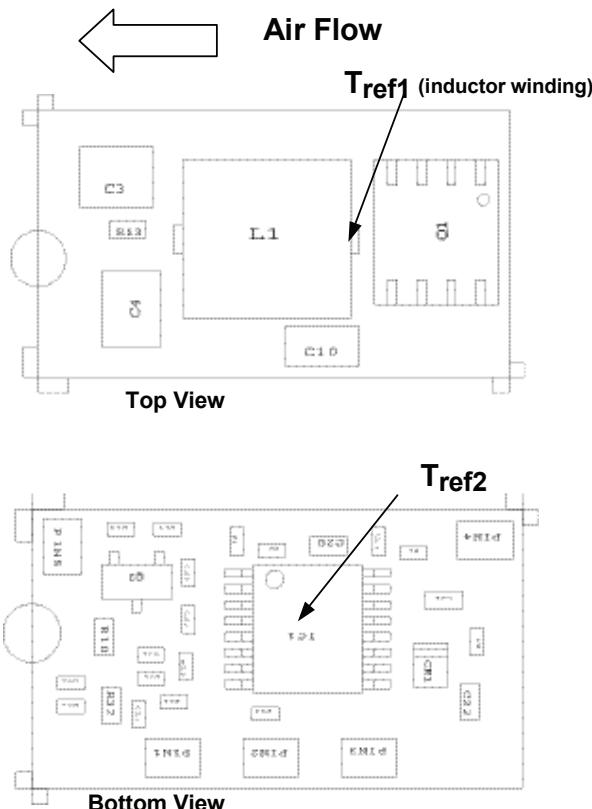
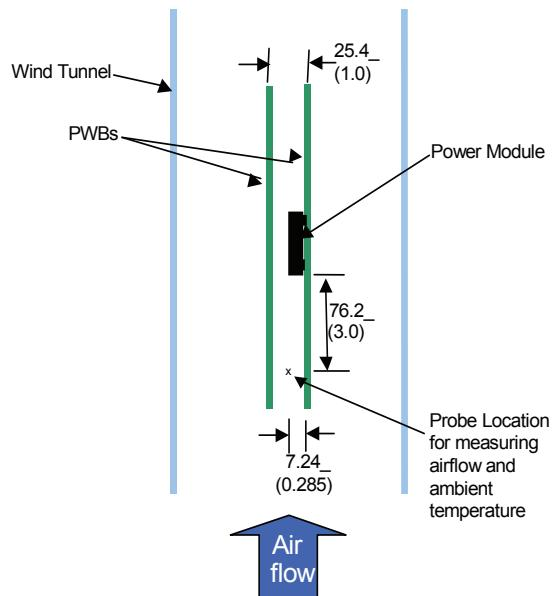

Figure 32. T_{ref} Temperature measurement location.
Figure 33. Thermal Test Set-up.
To provide over temperature protection in a fault condition, the unit relies upon the thermal protection feature of the controller IC. The unit will shutdown if the thermal reference point T_{ref2} , (see Figure 33) exceeds $140^{\circ}C$ (typical), but the thermal shutdown is not intended as a guarantee that the unit will survive temperatures beyond its rating. The module will automatically restart after it cools down.
Considerations include ambient temperature, airflow, module power dissipation, and the need for increased reliability. A reduction in the operating temperature of the module will result in an increase in reliability. The thermal data presented here is based on physical measurements taken in a wind tunnel. The test set-up is shown in Figure 33. Note that the airflow is parallel to the long axis of the module as shown in figure 32. The derating data applies to airflow in either direction of the module's long axis.
The thermal reference point, $T_{ref\ 1}$ used in the specifications of thermal derating curves is shown in Figure 32. For reliable operation this temperature should not exceed 125°C.